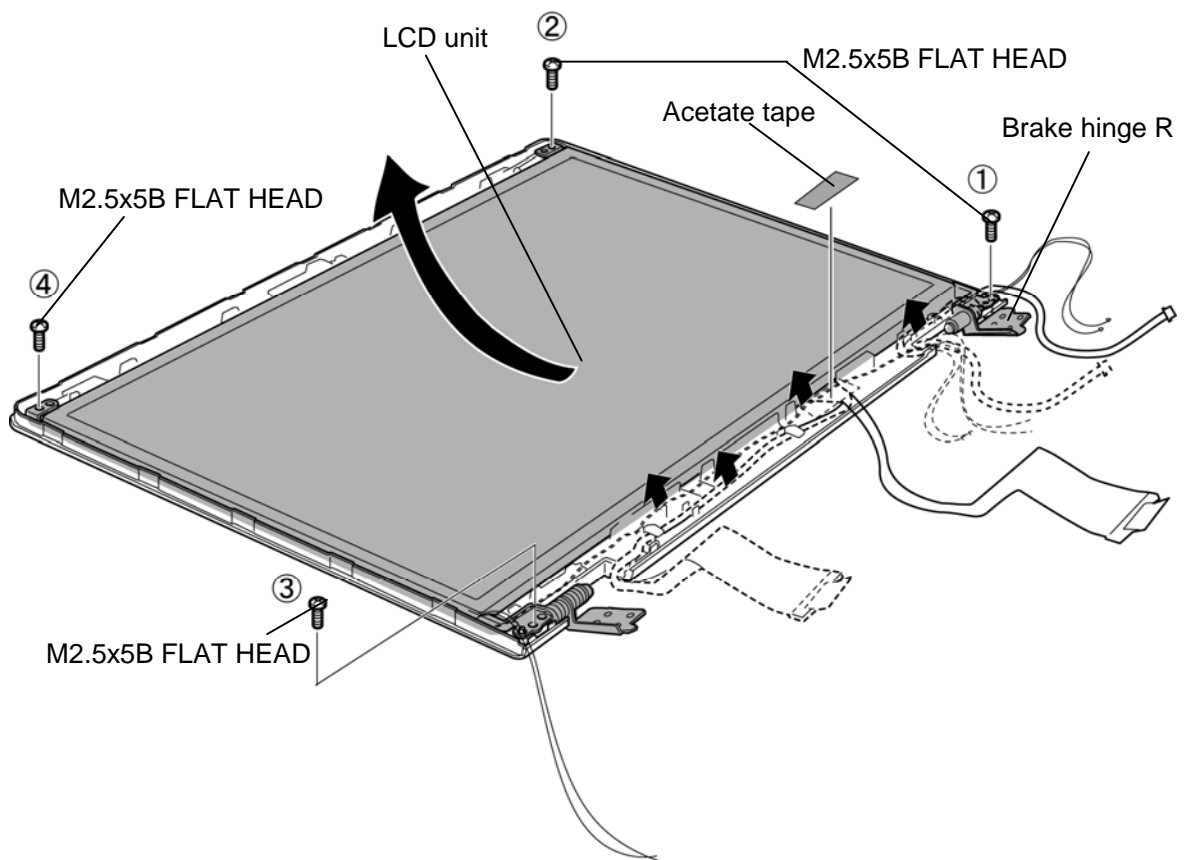

Figure 4-55 Removing the LCD unit (4)
**NOTE:** When securing the LCD unit and LCD cover, be sure to secure the screws in the order of the number on the Figure 4-55.